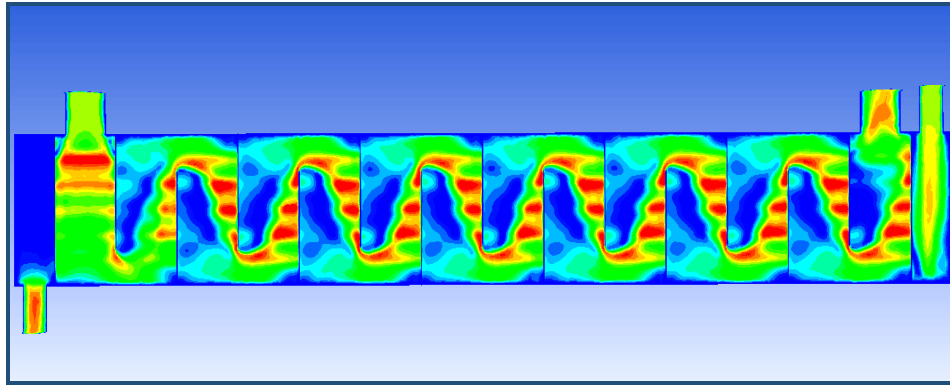

Figure 12.1: Temperature contour of parallel flow heat exchanger
5. Analyze the results using the Ansys CFD post to get the contour as shown in Figure 12.1.